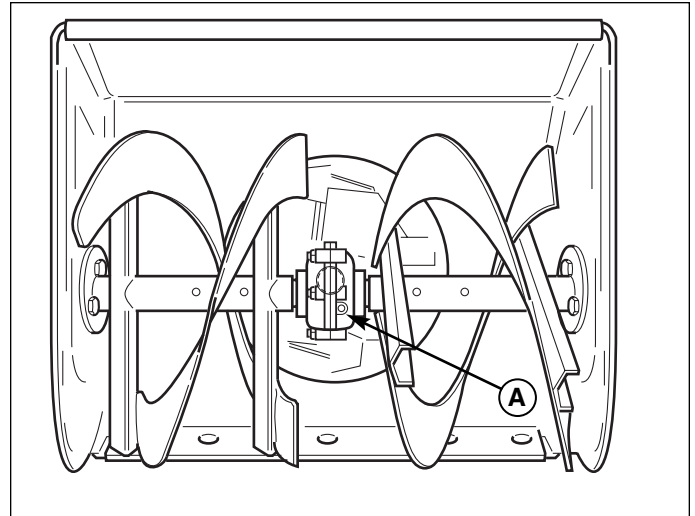

Figure 9. Auger Gear Case Lubrication
1. Check auger gear case lubrication. Place the snowthrower on a level surface. Remove the pipe plug (A, Figure 9). The lubricant should be level with the hole. If not, add Simplicity Winter Weight Worm Gear Oil